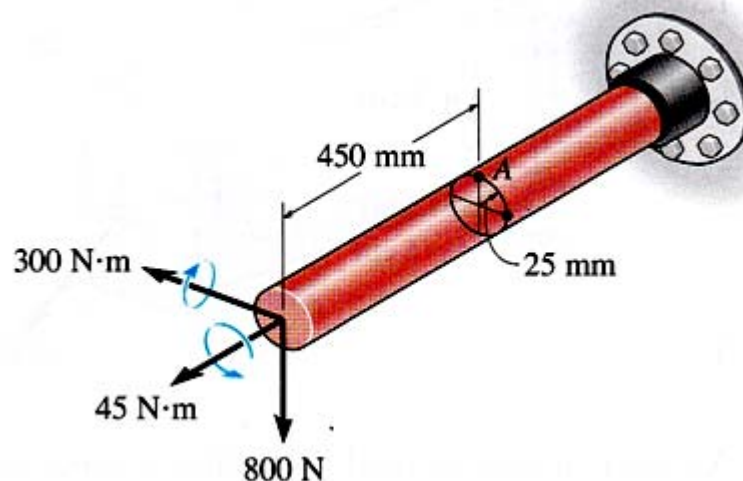

Figure Q5 [a]
- Q5. [a] Figure Q5 [a] shows a 50mm-diameter solid shaft subjected to a torque of 45 N.m, bending moment of 300 N.m and shear force of 800 N. By using the stress-transformation equations, determine the principal stresses acting at point A.